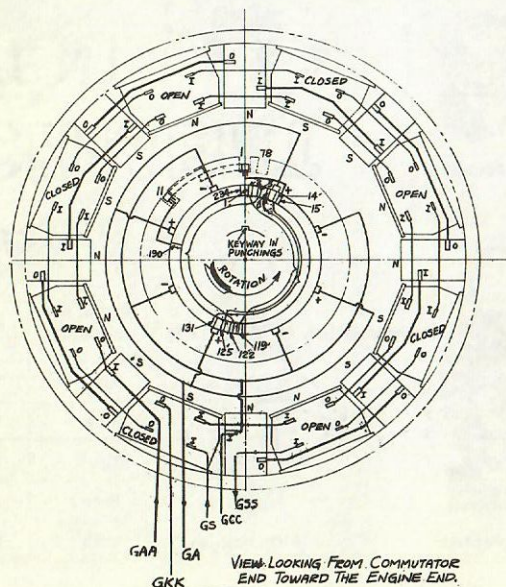

Fig. 5-9
3. Connect coils per Connection Diagram. See Figs. 5-9 and 6-9.